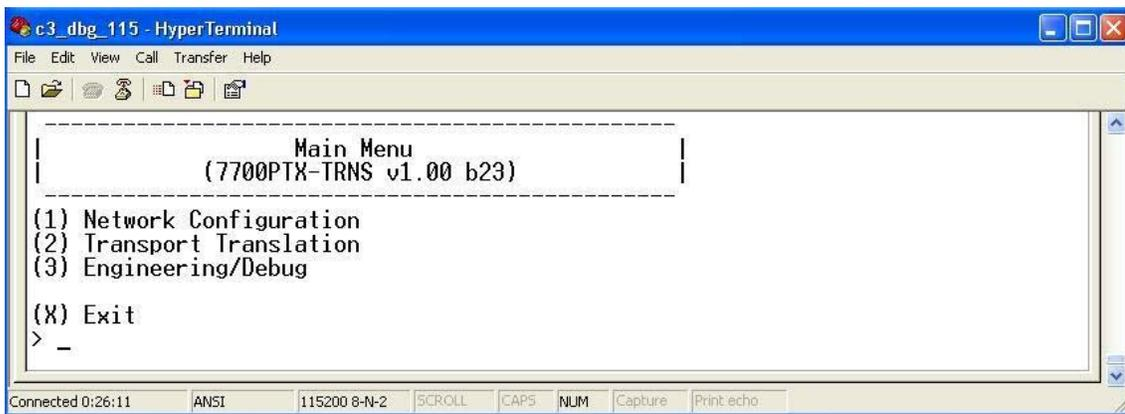

Figure 4-4: 7700PTX-TRNS Main Menu
13. The parameters of the 7700PTX-TRNS are configurable via its menu system, the root of which is called *Main Menu*. This is shown in Figure 4-4.